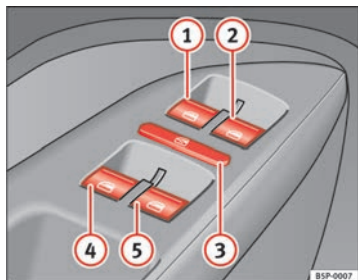

Fig. 69 Detail of driver door: controls for the front and rear windows
The buttons ⇒ page 108, fig. 69 ① and ② have two levels for opening the window and two for closing it. This makes it easier to open and close windows to the desired position.